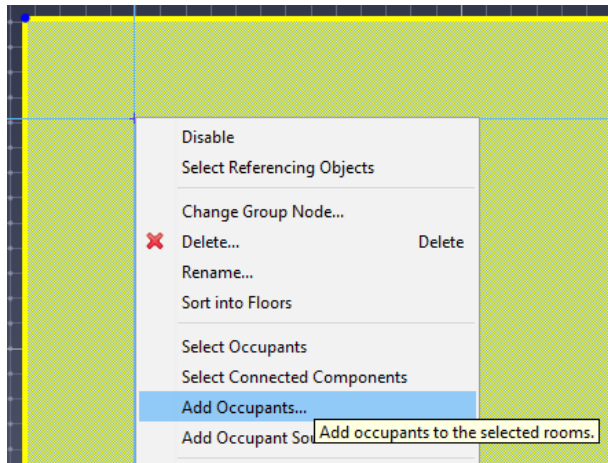
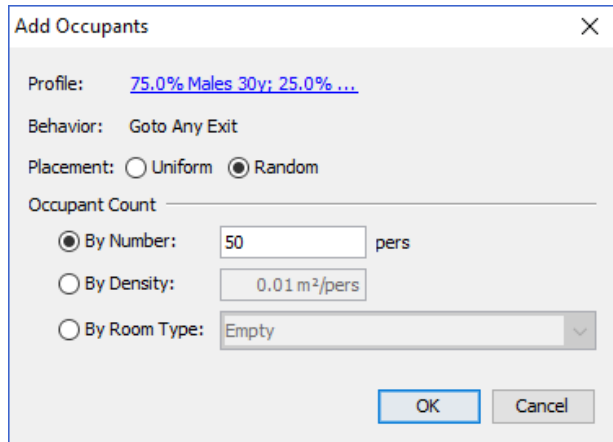

Figure 116. Add occupants in context menu
Figure 117. Add occupants dialog
1. Select the desired rooms and choose **Add Occupants** from the **Model** menu or the right-click menu as shown in Figure 116. This will bring up the Add Occupants dialog (Figure 117). For an explanation of the dialog's options, please see Section 5.4.2.